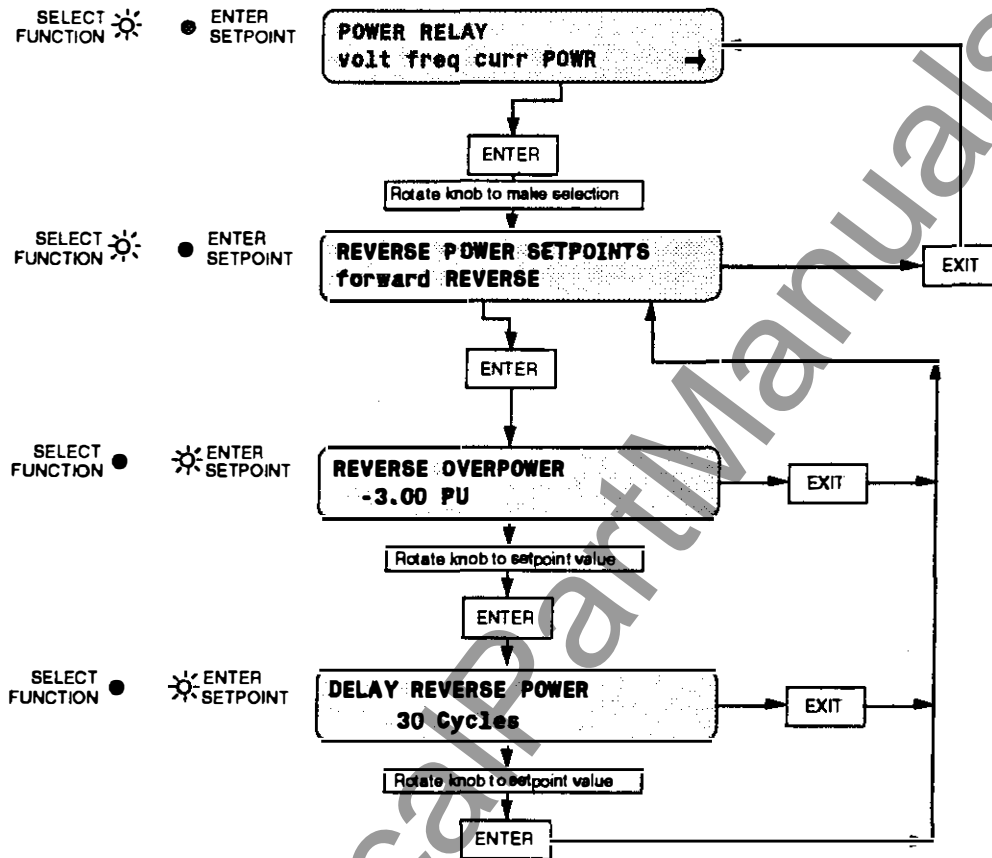

FIGURE 5-14 Power Relay: Reverse Overpower (32R)
- 32R Reverse Overpower..... *Figure 5-14*